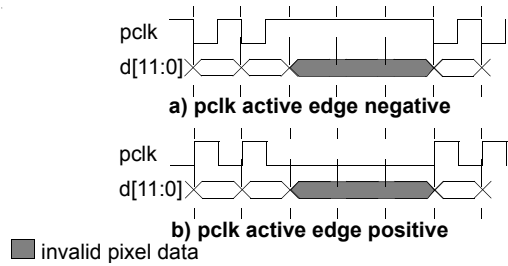

Figure 38. *pclk* in Data Ready Mode
- In data ready mode, the pixel clock output pin (*clk*) will produce a pulse with a specified level every time valid pixel data appears on the digital video bus $d[11:0]$ as shown in Figure 38.